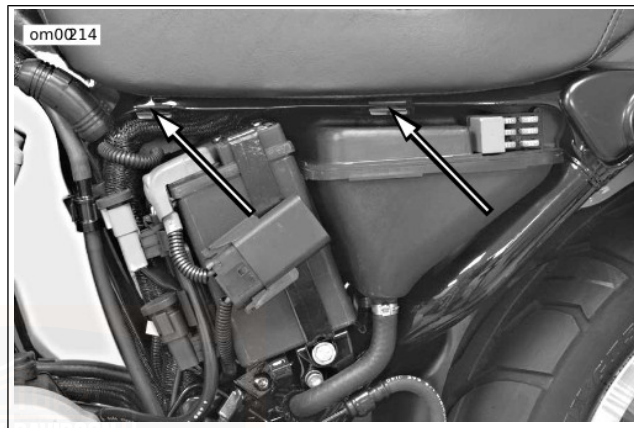

Figure 61. Side Cover Clips: Sportster Models
2. See Figure 61. Gently pull on upper portion of left side cover pulling cover away from clips. Lift cover from frame.
1. See Figure 61. Gently pull on upper portion of left side cover pulling cover away from clips. Lift cover from frame.